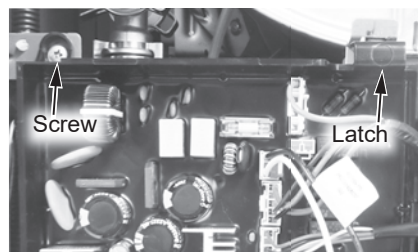

Figure 80 - Control board location
**5** Locate the screw securing the control board panel. Use a Phillips screwdriver to remove the screw and place it aside in a safe place for reinstallation. See Figure 80.